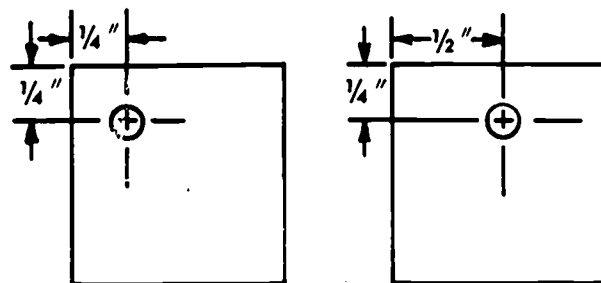

Fig. 59-1. Location of Hole for I.D. Tag
5. Use a steel rule and pencil to lay out the location of a 1/8" hole. See Fig. 59-1 for suggested hole location.